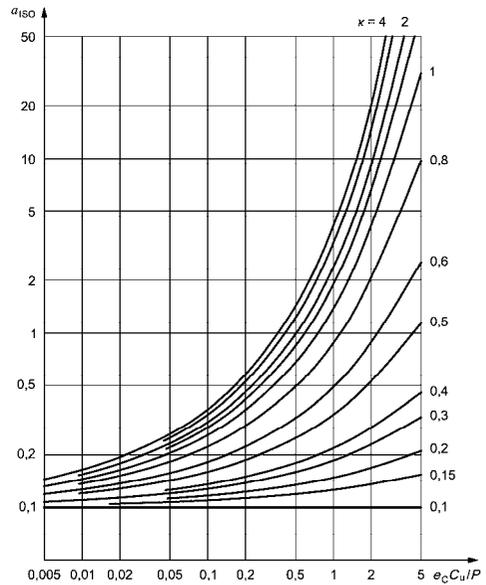

Fig. 6.14
- Fig. 6.14 for axial roller bearings